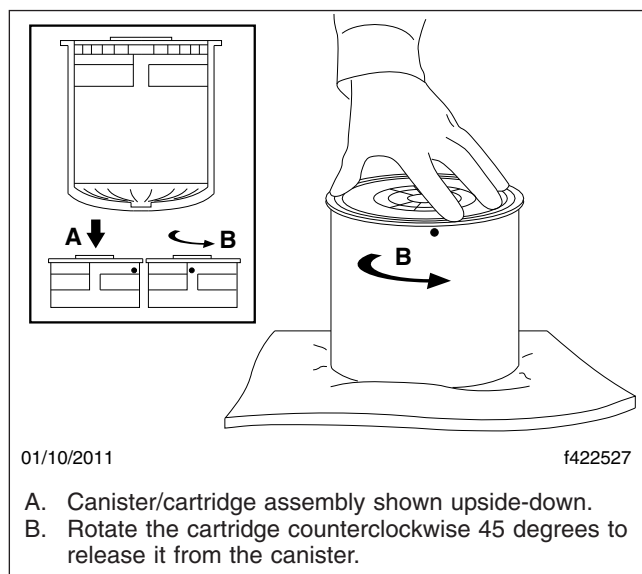

Fig. 2, Releasing the Cartridge
3. Place the assembly upside-down as shown in **Fig. 2**. Press the cartridge down to compress the rubber spring then rotate counterclockwise 45 degrees to release the cartridge. The cartridge itself contains no hazardous material, but there may be a small amount of oil from the compressor.